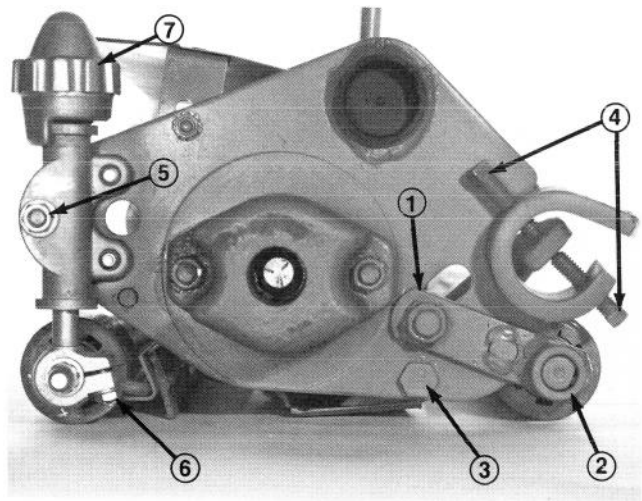

Figure 10
1. Remove cap screw and nut anchoring the rear roller height-of-cut bracket to the side plate on both ends of the cutting unit (Fig. 10).
2. Loosen Allen set screws anchoring the roller shaft (Fig. 10).
4. Remove the bedbar mounting bolts from each end of the cutting unit (Fig. 10). Then loosen the bedknife adjusting screws at each end of the cutting unit (Fig. 10). The bedknife assembly can then be removed by rotating it away from the reel.
1. Loosen the locknuts securing the height of cut adjusting rods at both ends of the cutting unit and the roller shaft clamp bolts (Fig. 10).
2. Turn the height of cut adjustment knobs until they are disconnected from the height of cut adjusting rods (Fig. 10). The knobs are captivated on the upper washer face of height of cut clamp.